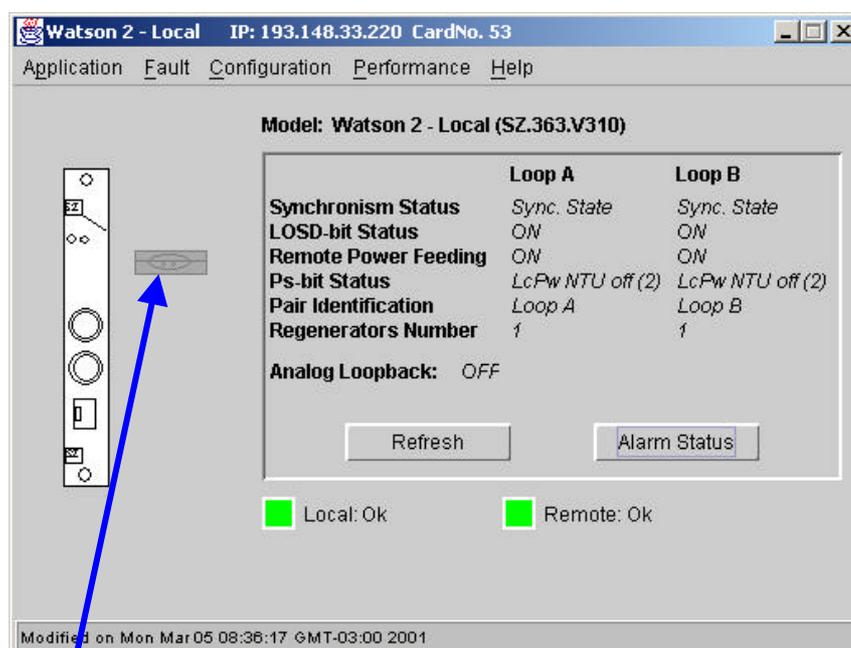

Figure 9: Card Configuration Local Modem
After selecting the appropriate card, the application will display information on the current state of the modem (Figure 9), such as synchronism status (loop A and B), Losd-bit status, remote feeding, Ps-bit status, whether or not regenerators are present on the line and how many there are (in this example there is one regenerator, between loops A and B), analog loop (*ON or OFF. If ON, the modem is carrying out an internal test in its analog interface*).
It is also possible to use the configuration menu from the upper part of the window (Figure 9 or 10), or to refresh the alarms in order to obtain more details on them. Detailed information on alarms is shown in the Alarm Status window (Figure 11). Whenever any type of alarm is generated, it will be interpreted by the system and passed to the application, appearing with ON against its name if it is activated and OFF if it is deactivated.
- Click on the Fault menu in Example 2, which appears on the menu in the upper part of Figure 9 or 10;